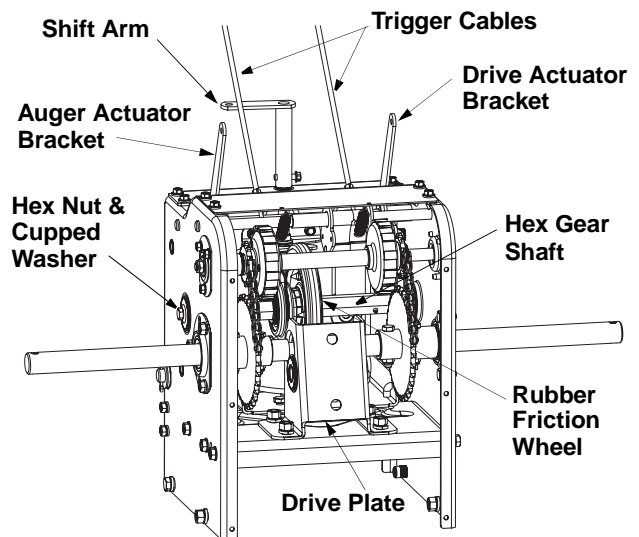

Figure 14
- With the wheel drive control released, check if there is clearance between friction wheel and drive plate in all positions of the shift lever. See Figure 14.
- With the traction control lever engaged, check if the friction wheel solidly contacts the drive plate. See Figure 14. If not, adjust as follows:
- At least once a season or after every 25 hours of operation, remove rear cover. Lubricate any chains, sprockets, gears, bearings, shafts, and the shifting mechanism at least once a season. Use engine oil or a spray lubricant. Refer to Figure 14.
- Lubricate the gear shaft with 6-in-1 grease (part number 737-0170) at least once a season, or after every 25 hours of operation. Refer to Figure 14.
- Also engage the traction control and check if the friction wheel is making contact with friction plate. Refer to Figure 14. If it does not make contact, adjust the traction drive cable and recheck the friction wheel.